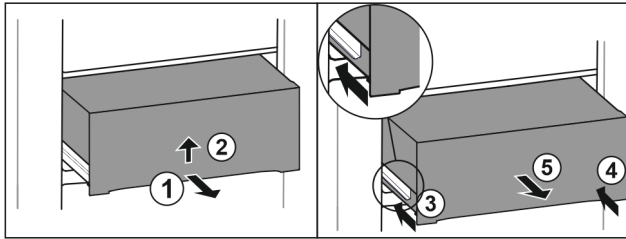

Fig. 31
- ▶ Pull out the drawer halfway. Fig. 31 (1)
- ▶ Lift the drawer from the bottom. Fig. 31 (2)
- ▶ Slide in left rail. Fig. 31 (3)
- ▶ Slide in right rail. Fig. 31 (4)
- ▶ Remove drawer to the front. Fig. 31 (5)